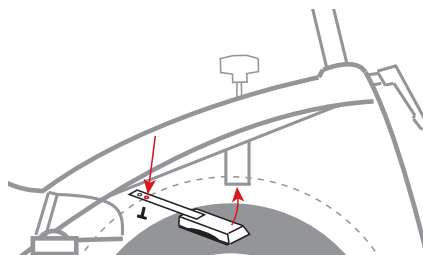

Figure 16
- 4: Take the new brake block and fasten it to the frame by tightening the screw closest to the brake block. Then place the block in the correct position under the brake (see figure 16).